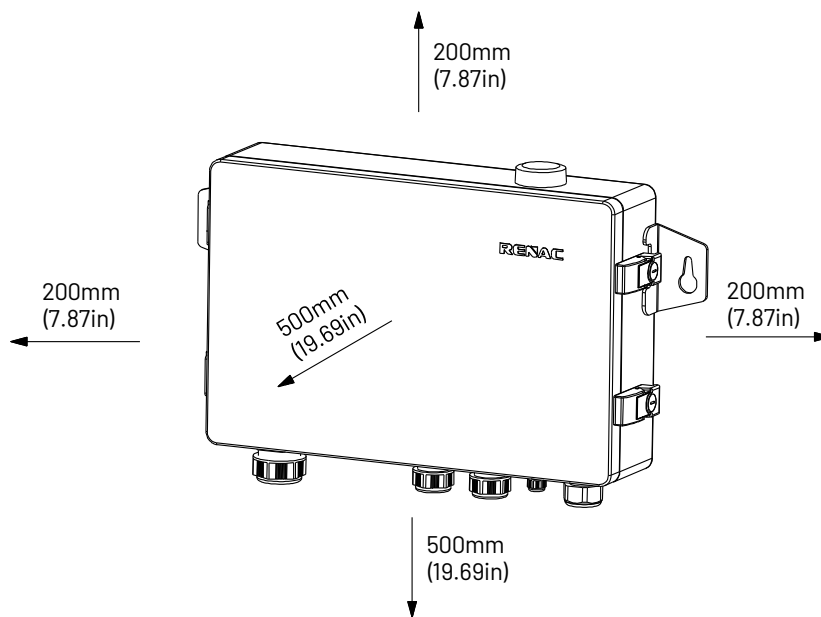

Figure 4-4 Minimum clearance required
- To allow the dissipation of heat and for the convenience of dismantling, clearances around the EMB-100 must be no less than the values refer to Figure 4-4.